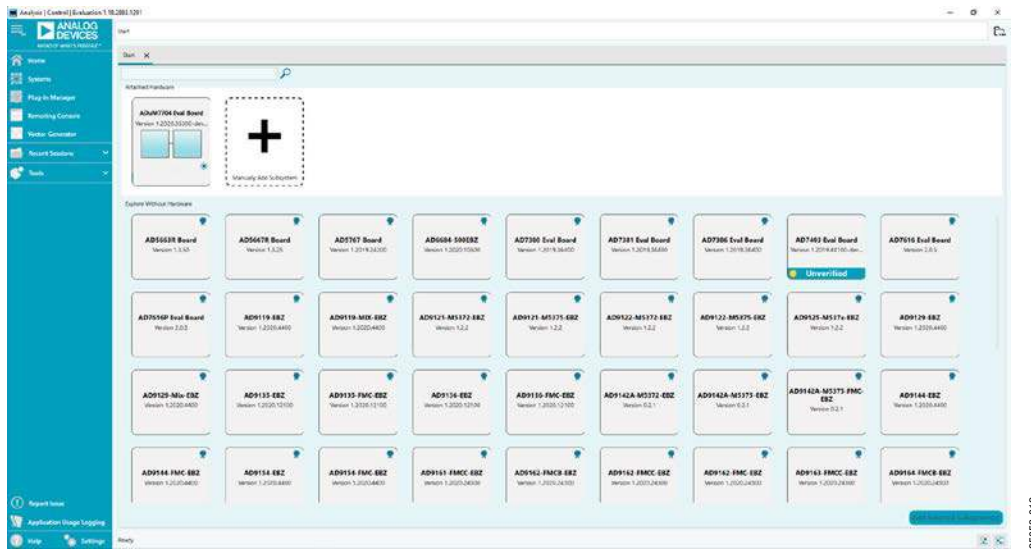
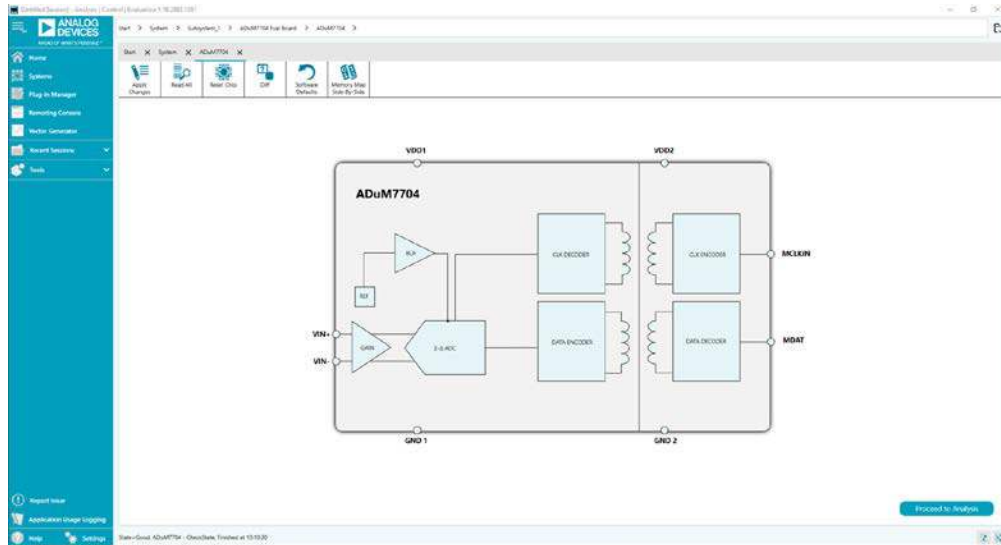
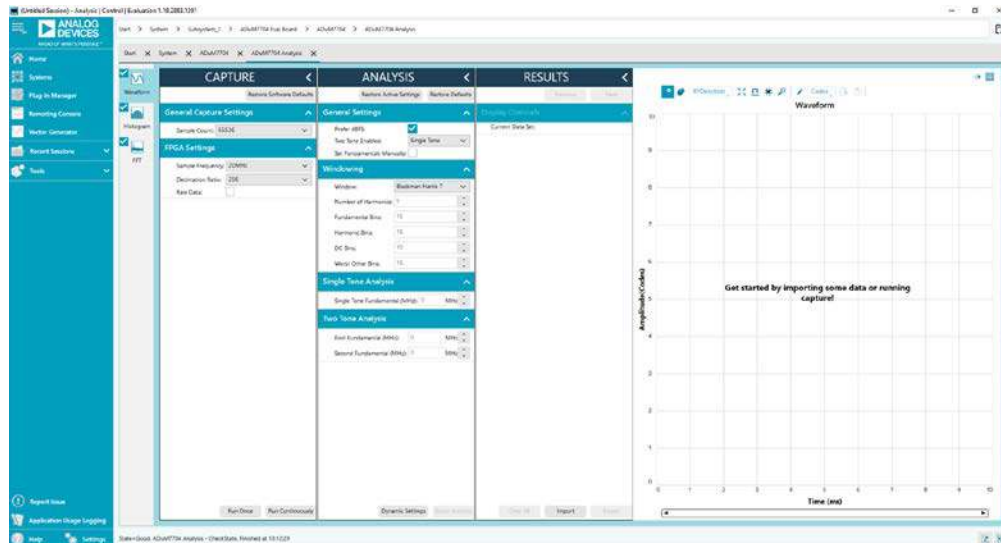

Figure 12. ACE Software Main Window
Figure 13. Chip View Window
Figure 14. Analysis View Window
1. In the **Start** menu of the PC, click **All Programs > Analog Devices > ACE > ACE.exe** to open the ACE software main window shown in Figure 12.
3. Double click the **ADuM7704 Eval Board** icon (see Figure 12) to open the chip view window shown in Figure 13.
USB port via the SDP-H1 when the ACE software launches, the ADuM7704 Eval Board icon does not appear in the **Attached Hardware** section in ACE (see Figure 12). To make the ADuM7704 Eval Board icon appear, connect the EV-ADuM7704-8FMCZ and the SDP-H1 to the USB port of the PC, wait a few seconds, and then follow the instructions in the dialog box that opens.
Click **Proceed to Analysis** in the chip view window of the **ACE** software (see Figure 13) to open the analysis view window shown in Figure 14. The analysis view window contains the